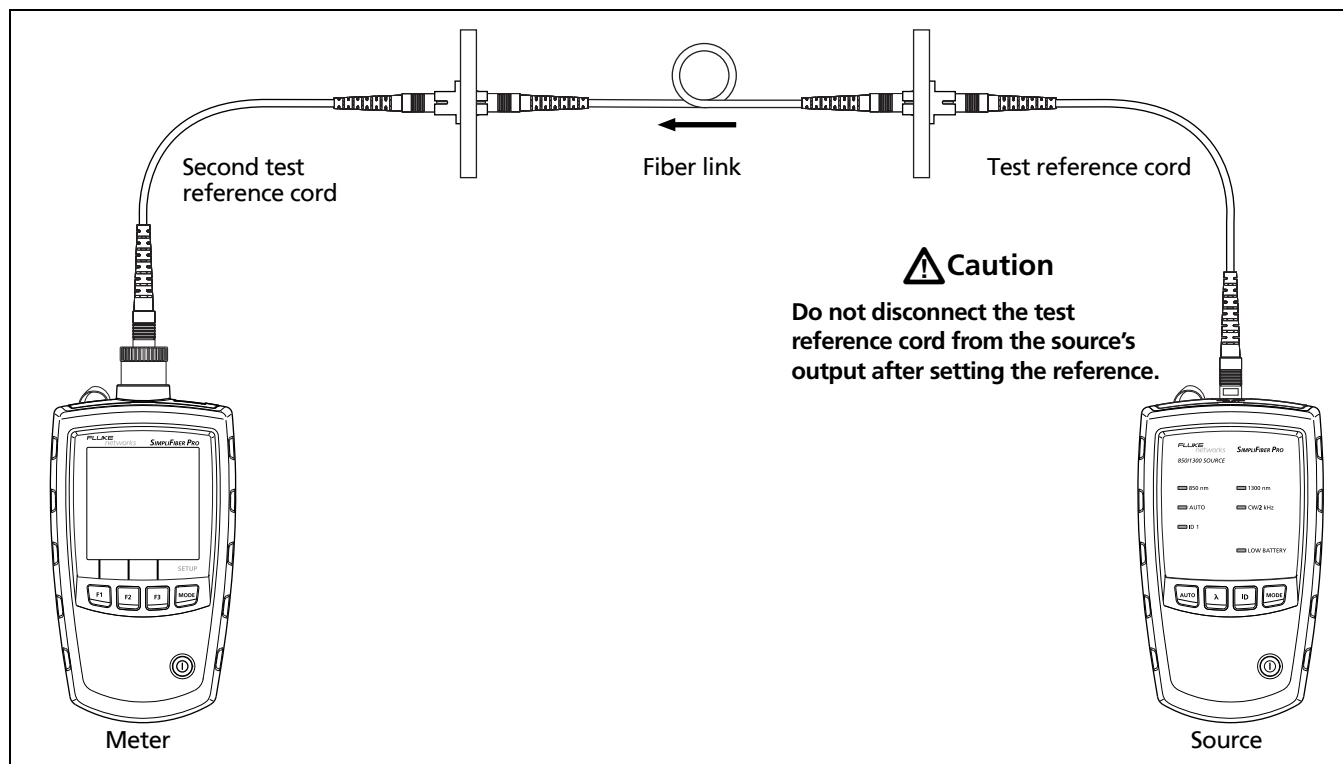

Figure 11. Loss Measurement Connections (1 Jumper method)
- 3 Disconnect the test reference cord from the meter; then make the connections shown in Figure 11.